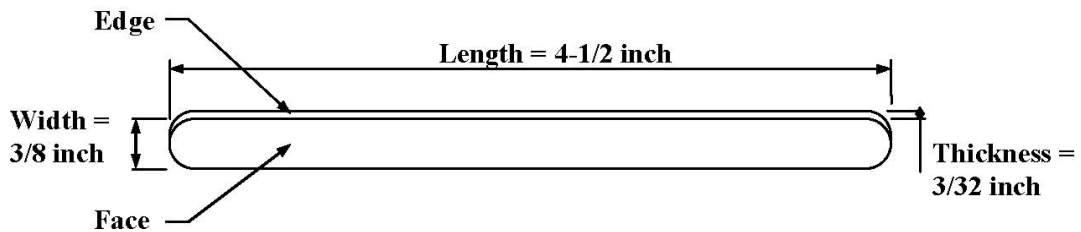

Figure 3.1 Popsicle Stick Sample
a. The Popsicle sticks must be made of wood and have the approximate dimensions as in **Figure 3.1**. Teams may acquire their own Popsicle sticks or request sticks from the ASCE Younger Member Forum. *The use of any Popsicle sticks made of any other material or of other size will result in disqualification.*